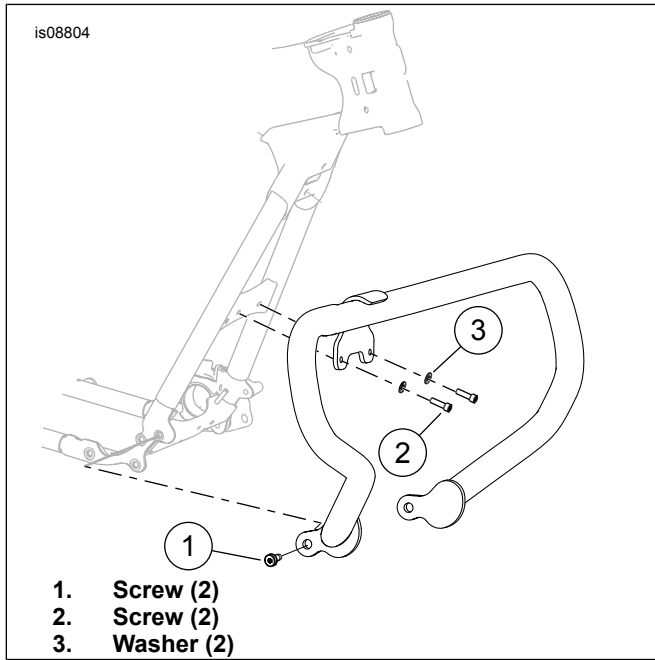

Figure 2. Install Engine Guard
1. See Figure 2. Hold the engine guard in position, and loosely fasten the top of the guard with the new hex socket screws (2) and flat washers (3) from the kit.